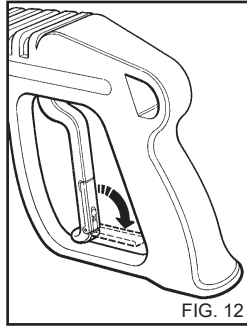

FIG. 12
- When the water cleaner is not used, close the safety device on the handle (fig. 12).